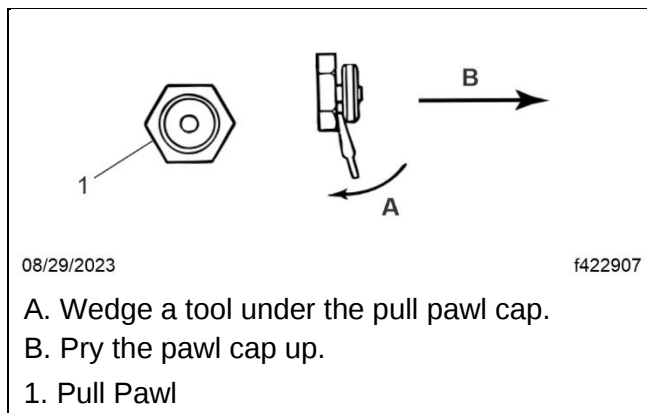

Fig. 4, Disengaging the Pull Pawl
10. Disengage the pull pawl by carefully prying up on the pawl cap. Leave the tool wedged in this position until the adjustment is complete. See Fig. 4.